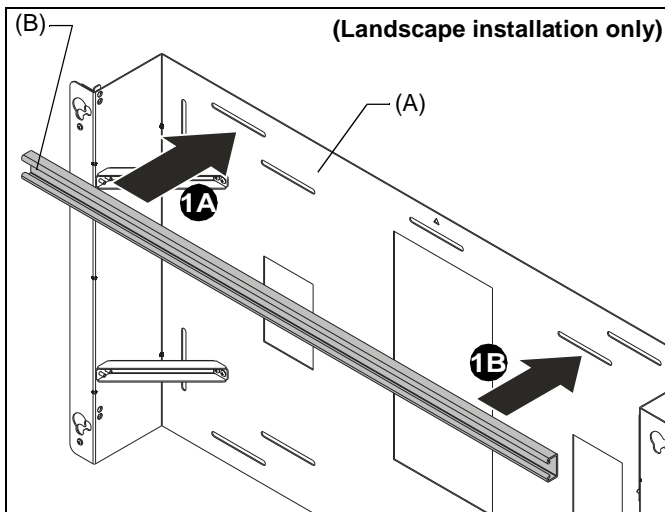

Figure 3
1. **(Landscape installation only):** Insert PSMO2085 strut channel (B) into the wall mount (A) and place over either the 16" on-center attachment points (1A) or the 24" on-center attachment points (1B). (See Figure 3)